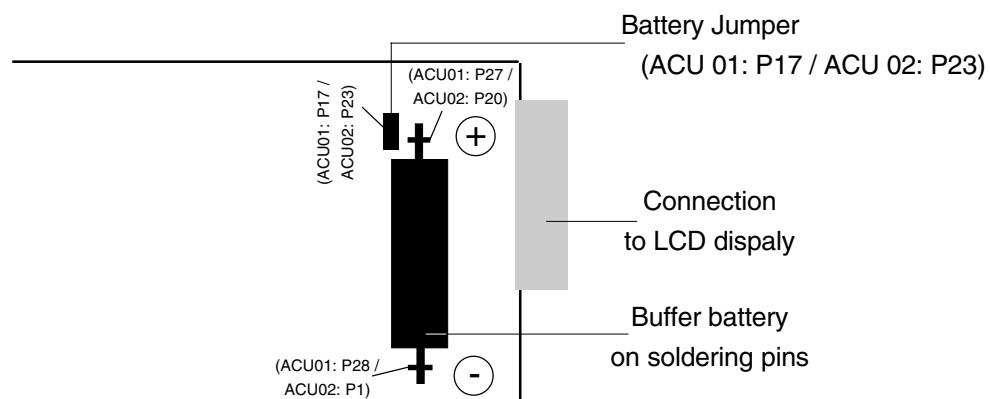

Fig. 12-1: Controller Board ACU (partial view, component side)
- Remove the jumper "P23" (ACU02) or "P17" (ACU 01) for battery buffer (Fig. 12-1).
- Unsolder the battery from the soldering pins (see Fig. 12-1).
- Solder the new battery (Ordering No. 03 765 180) to the soldering pins (see Fig. 12-1).
Verify polarity when soldering the new battery (Fig. 12-1) !
- Re-insert the jumper for battery buffer (Fig. 12-1).